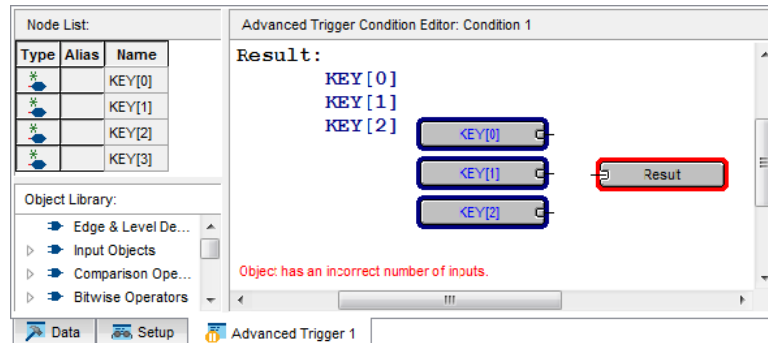

Figure 19. The three input nodes of interest dragged into the Advanced Trigger Editing Window.
- In the node list section of this window, highlight the 3 nodes KEY[0] to KEY[2], and click and drag them into the white space of the Advanced trigger window, resulting in Figure 19. Note that you can also drag and drop each node individually.